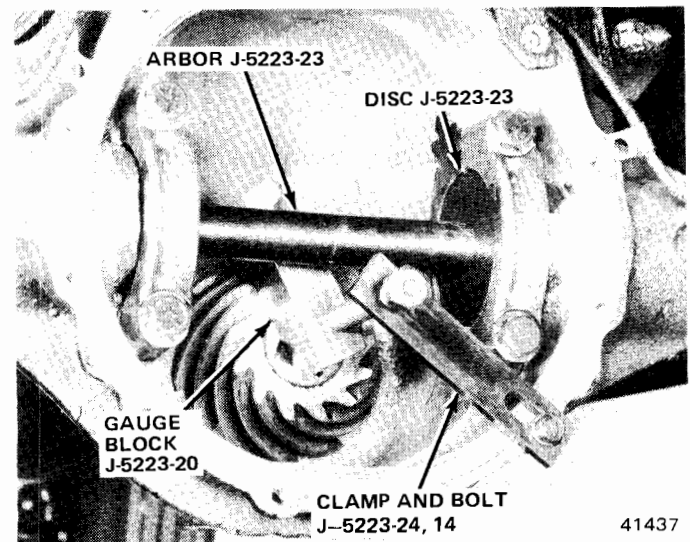
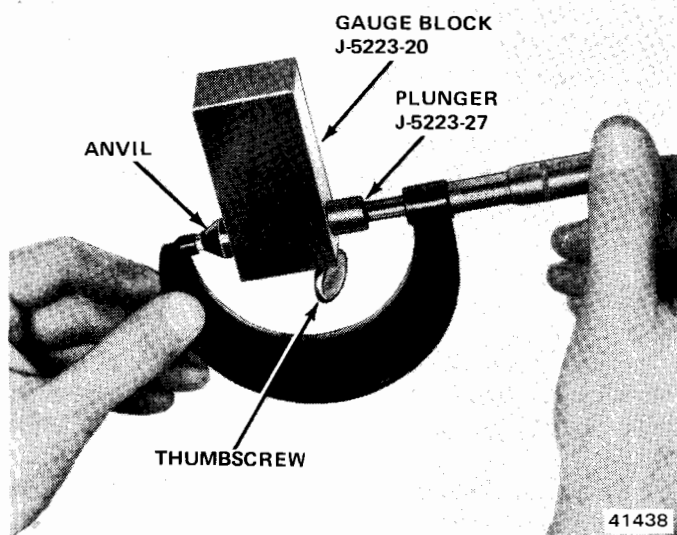

Fig. 10-57 Installing Pinion Depth Gauge Tools
Fig. 10-58 Measuring Gauge Block
(1) Assemble Arbor Tool J-5223-4 and Discs J-5223-26 (Model 30 axle) or Discs J-5223-25 (Model 44 and 60 axles) and install in differential bearing cup bores in axle housing (fig. 10-57). Be sure discs are seated in bearing cup bores.
(2) Install differential bearing caps in axle housing and over discs. Tighten bearing cap bolts securely, but do not tighten to specified torque.
(3) Install Plunger J-5223-27 in Gauge Block J-5223-20. Compress plunger and tighten thumbscrew in gauge block.
(4) Position Gauge Block J-5223-20 on end face of pinion gear with anvil end of gauge block seated on gear and plunger underneath Arbor Tool J-5223-4 (fig. 10-57).
(5) Install bolt J-5223-29 in Clamp J-5223-24 and mount assembly on axle housing (fig. 10-57). Use housing cover bolt to attach clamp to housing.
(6) Extend clamp bolt until it presses against gauge block with enough force to prevent gauge block from moving.
(7) Loosen thumbscrew in gauge block to release plunger. When plunger contacts arbor tool, tighten thumbscrew in gauge block to lock plunger in position. Do not disturb plunger position.
(8) Remove clamp and bolt assembly from axle housing.
(9) Remove gauge block and measure distance from end of anvil to end of plunger using a 2- to 3-inch micrometer (fig. 10-58). This dimension represents the *measured pinion depth*. Record this dimension for assembly reference.
(10) Remove bearing caps and remove arbor tool and discs from axle housing.
(11) Remove pinion gear, rear bearing cup, and depth shim from axle housing.